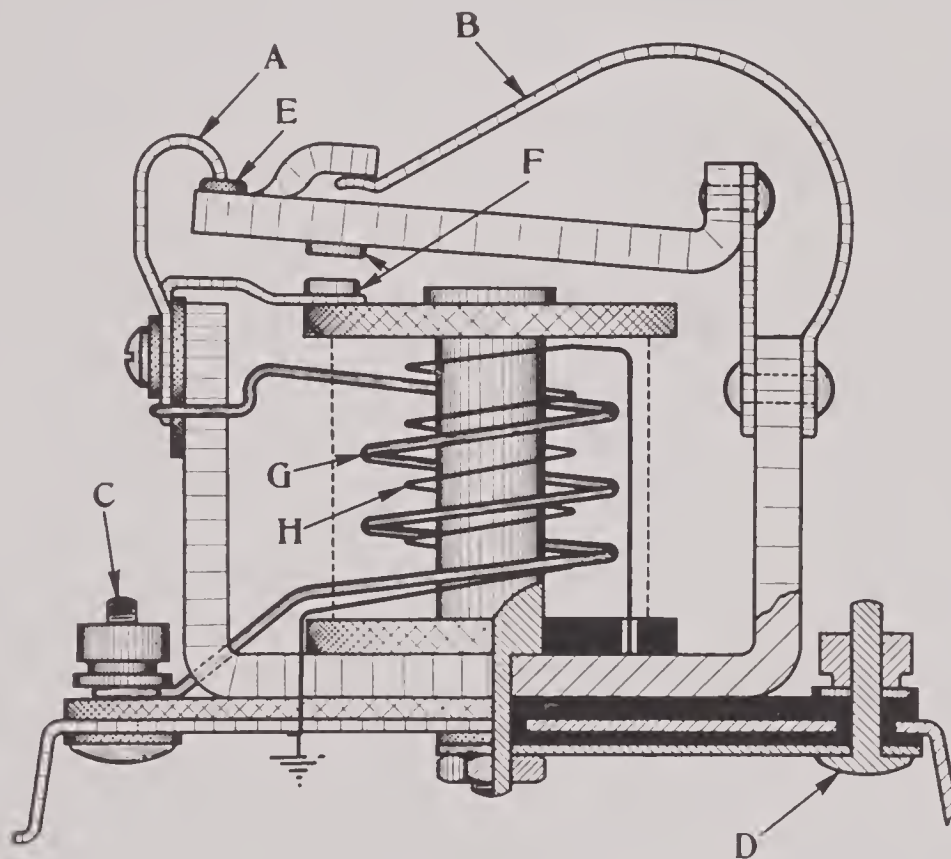
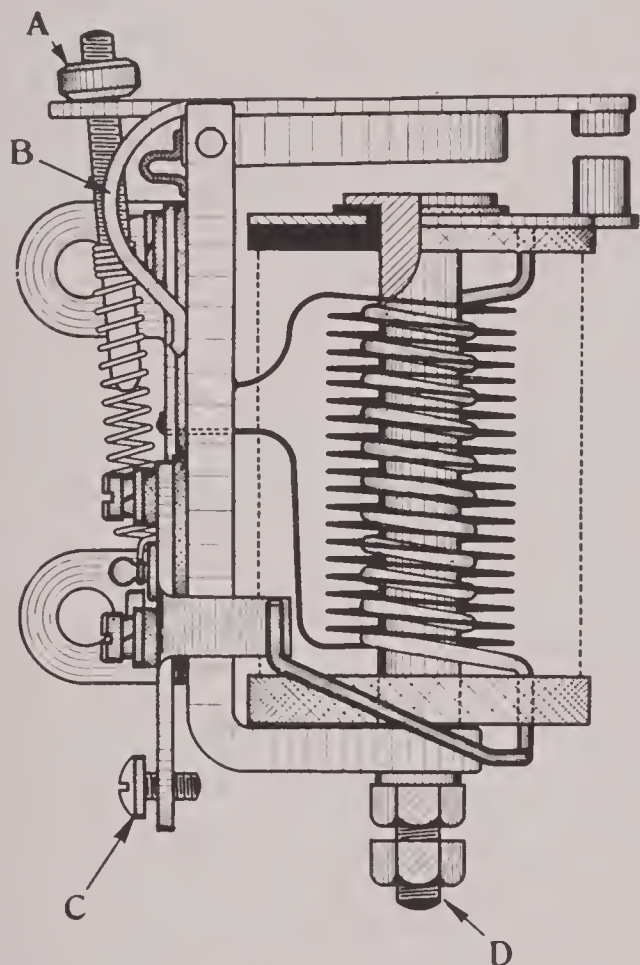

FIG. 296
FIG. 297
There are two adjustments that can usually be made on a cut-out relay. The tension of the spring is first adjusted so that the contacts are drawn apart before the strength of the discharge goes above one ampere. (The contacts should separate when the strength of discharge is between zero and one ampere). Then the stop (see (A) in Fig. 296 and (B) in Fig. 297) against which the arm drops when the spring draws the contacts apart, is so adjusted that the contacts close on six volt systems when the generator generates between  $6\frac{1}{2}$  and  $7\frac{3}{4}$  volts. On twelve volt systems, the contacts should close when generator generates from 13 to 15 volts. If the contacts close too early, the arm does not drop back away from the end of the core far enough. If the contacts close too late the arm drops back away from the end of the core too far.